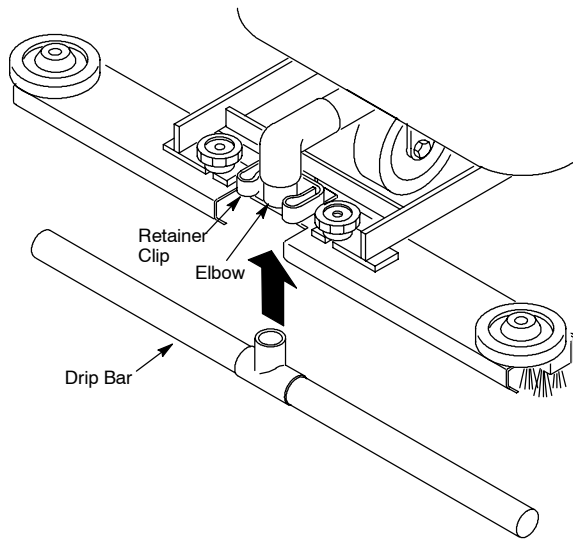

FIG. 6.
- Position drip bar into dispenser assembly and snap bar onto retainer clip. Then connect elbow on clear hose to drip bar (Figure 6.).